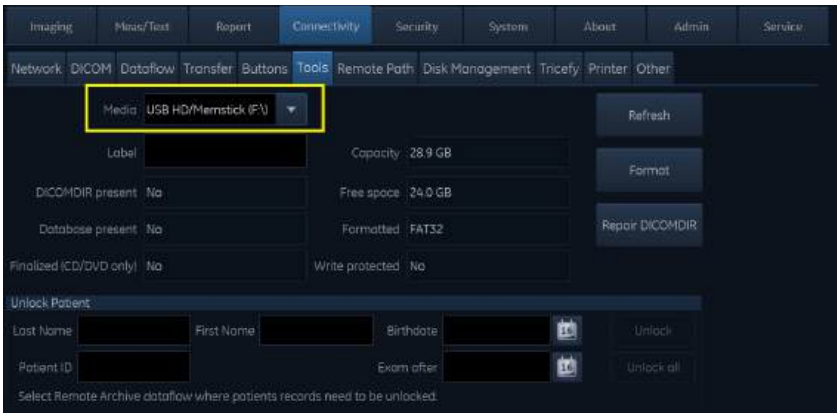

Figure 4-15. The Tools tab
- 4. Select the category **Connectivity** and select the tab **Tools** (Figure 4-15).